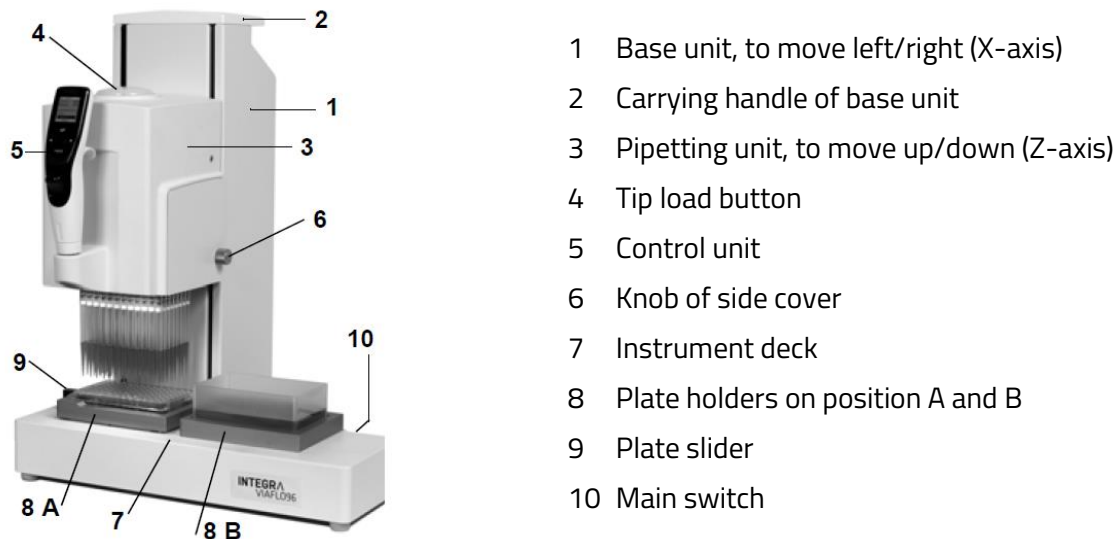

Figure 4. INTEGRA VIAFLO 96/384 device
The unique design of the Akura™ 96 Plate enables the use of multi-channel pipetting systems for parallel liquid handling without the risk of spheroid loss. We recommend the INTEGRA VIAFLO system as it is a compact, easy-to-use semi-automated pipette with 96 channels (Figure 4) for increased productivity.
*See Figure 4 for reference